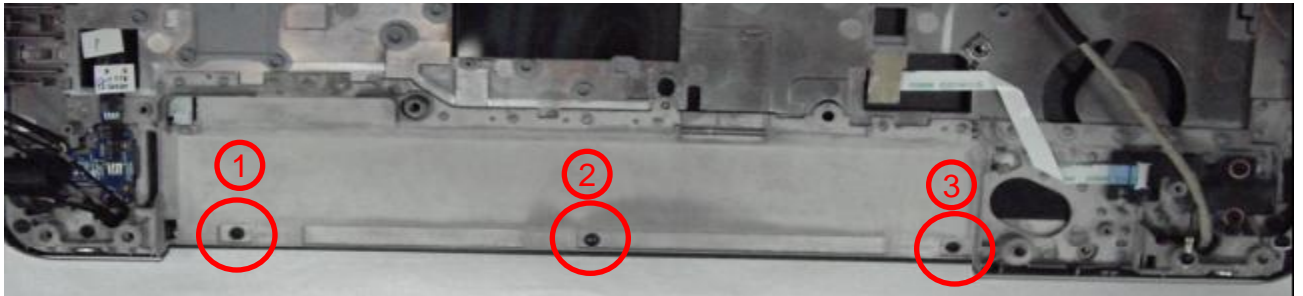

Fig.2
1. Loosen screw (6052A0005201) * 3. (Fig.2)